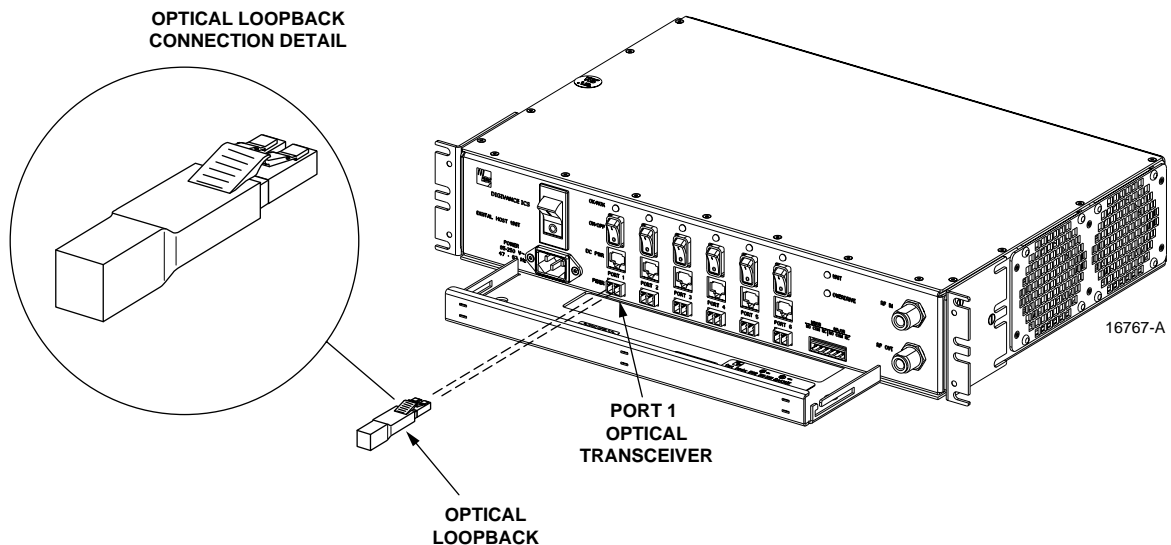

Figure 24. DHU/DEU Loopback Test
4. Plug a loopback into the optical port to be tested as shown in Figure 24.